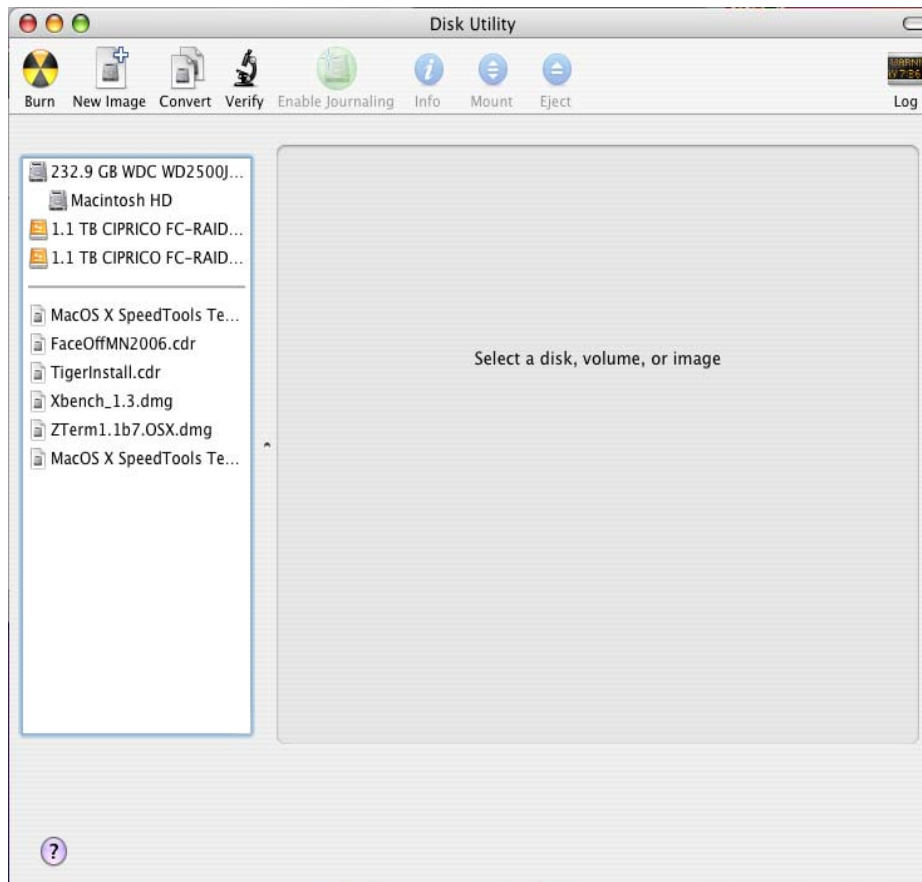

FIGURE 6-9. The Apple Disk Utility Screen, Prior to Clicking on the Upper Disk Icon.
3. The *Apple Disk Utility* screen appears. In the example below, icons of the two CIPRICO FC-RAID drives of the two MV 4105 units are shown in the left side. See Figure 6-9.